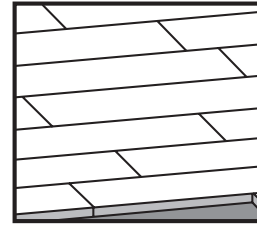

FIGURE 1.1 (CORRECT)
STEP 8: Avoid what our industry calls "clusters" by staggering the end joints by at least twice the plank's width. Example: using a 3 1/4" wide plank would put the next row's end joint no closer than 6 1/2". It will be impossible with some width do that. In this case, match the overall look. If available, the use of a Brad nailer is ideal to speed up the above face and blind nailing procedure. Ensure that there is a nail approximately 1-2" away from both ends of the board. Refer to figure 1.1 and 1.2